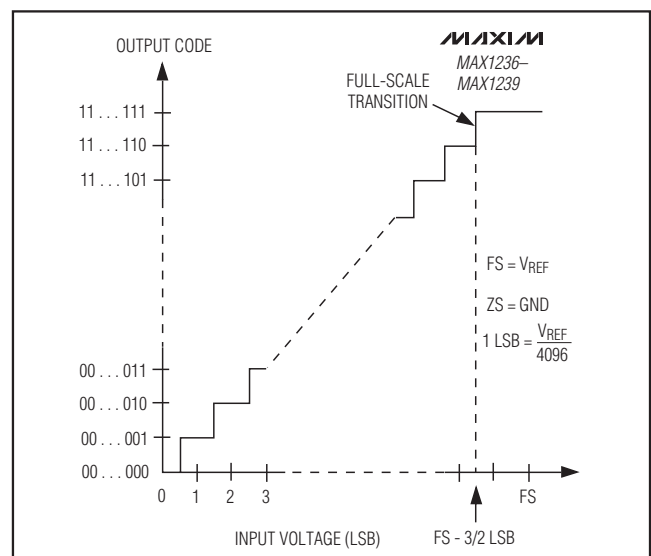

Figure 12. Unipolar Transfer Function
Output data coding for the MAX1236–MAX1239 is binary in unipolar mode and two's complement in bipolar mode with 1 LSB = (VREF/2N) where “N” is the number of bits (12). Code transitions occur halfway between successive integer LSB values. Figures 12 and 13 show the input/output (I/O) transfer functions for unipolar and bipolar operations, respectively.